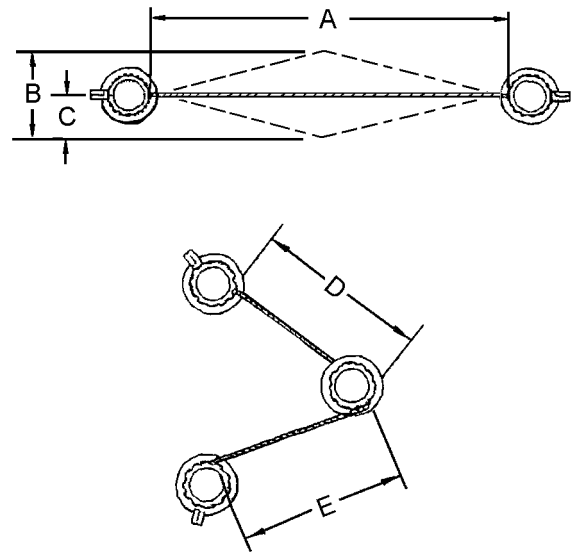

Figure 25. Safety Cable Flex Limits
c. Cable Flex Limits. After installing safety cable, the maximum flex between termination points shall be no greater than specified in Table 3 (Figure 25).